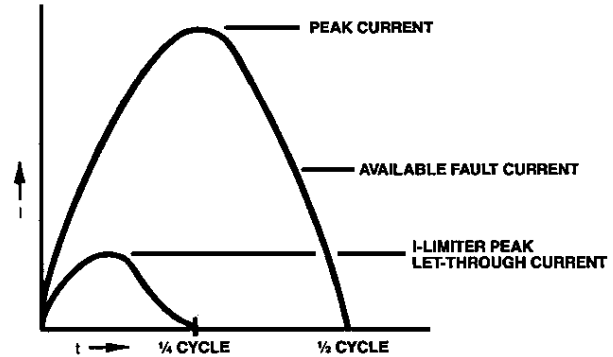

FIGURE 2.5.3
In Figure 2.5.3, the available current (I) curve is represented by the solid black line. As the diagram shows, the peak let-through current of the I-LIMITER circuit breaker is limited to a small fraction of the available peak current.